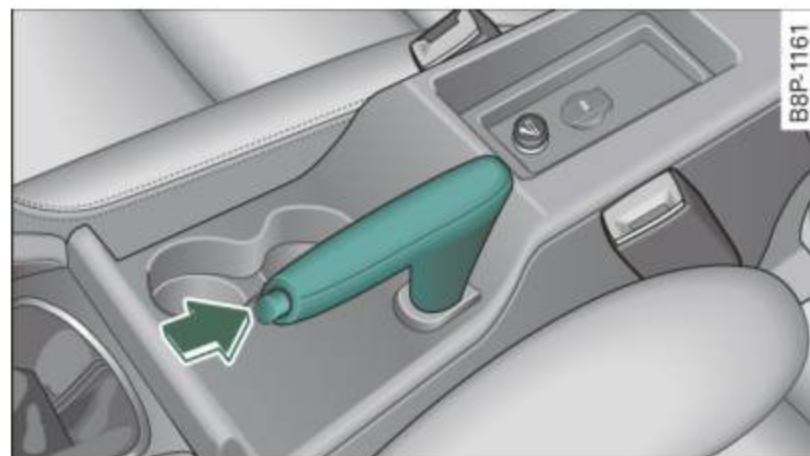

Fig. 134 Center console: Parking brake set
- Pull the parking brake lever up slightly *and* press the release button at the same time ⇒ fig. 134 -arrow-.